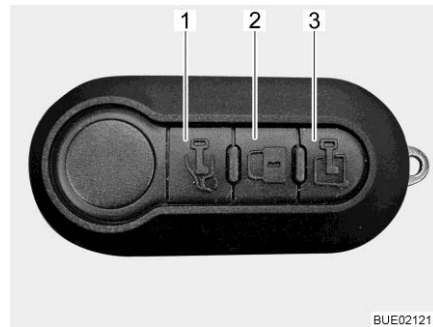

Fig. 53 Multifunctional remote control (3 buttons)
- Press the  button (Fig. 53,1) once briefly. The driver's door is unlocked.
- Press the  button (Fig. 53,3) once briefly. The conversion door is unlocked.
- Press the  button (Fig. 53,2) once briefly. All doors have been locked. If one or more doors have not been correctly closed, the direction indicators will be flashing rapidly.